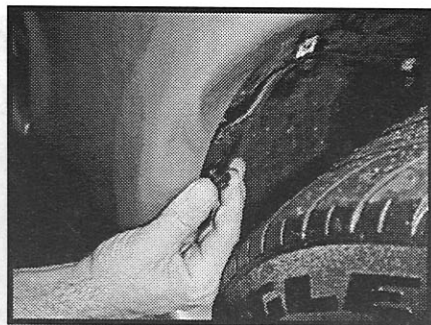

Figure 3
3. Remove ECU protective shroud (large plastic piece covering computer located inside passenger fenderwell). You must remove panel screws from the passenger wheel well and underside of vehicle. (see Fig. 3).